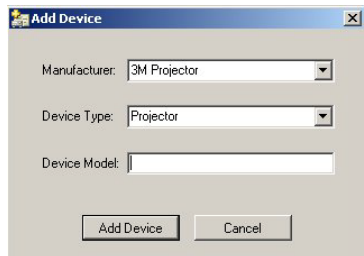

FIG. 31 Add Device Dialog Box
2. In the Device Selection area, click the **Add** button. The Add Device dialog opens (FIG. 31).